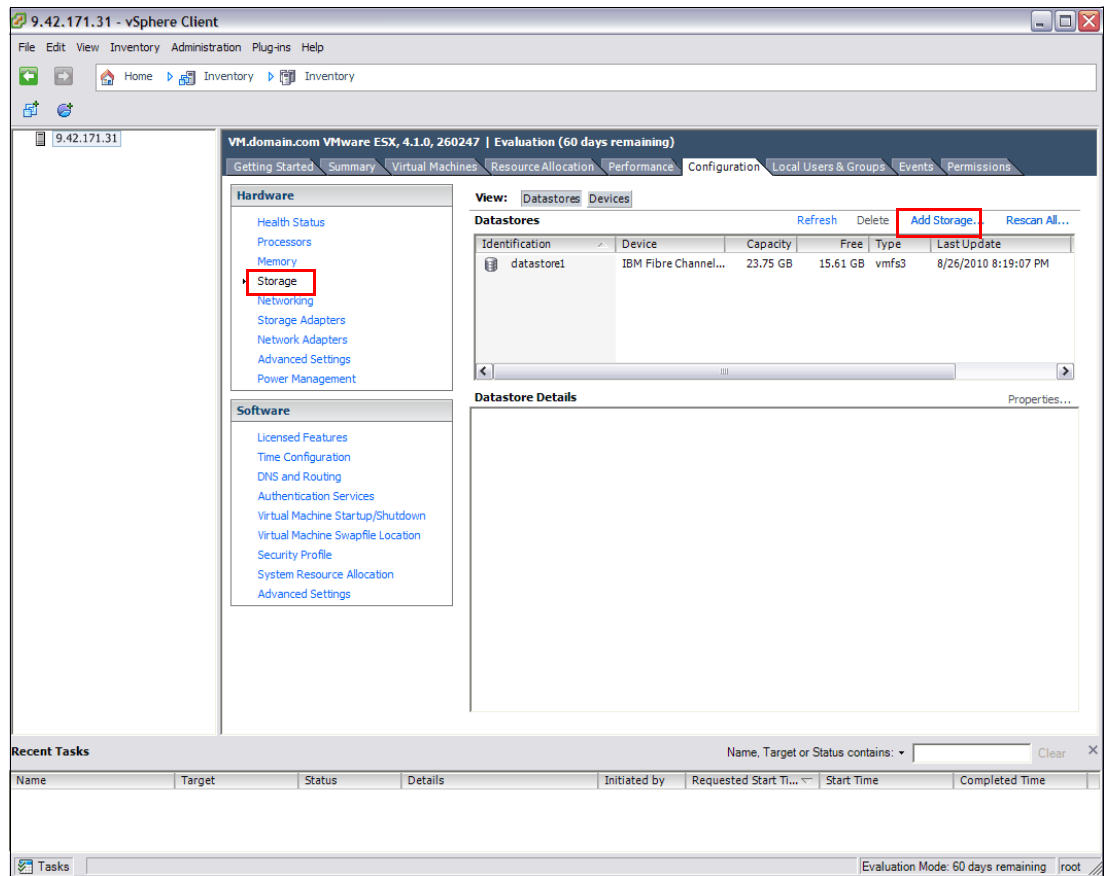

Figure 22-56 ESX Server - Storage selection
3. In the Hardware section, select **Storage** and click **Add Storage** as shown in Figure 22-56 on page 691.